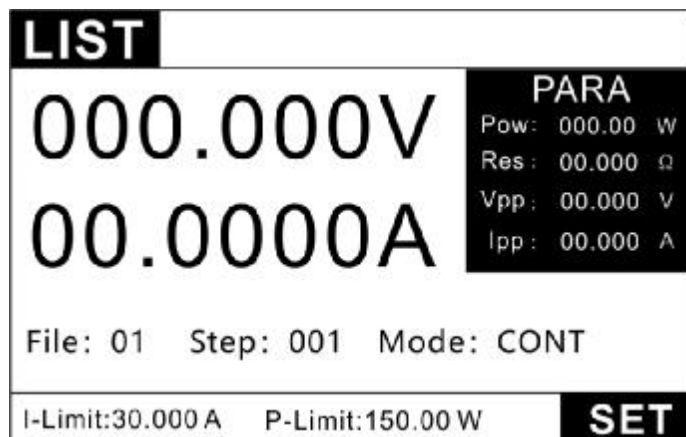

Figure 3.5 LIST mode test interface
2. In Figure 3.5, press the key **SET** to enter the setting interface, as shown in Figure 3.6.